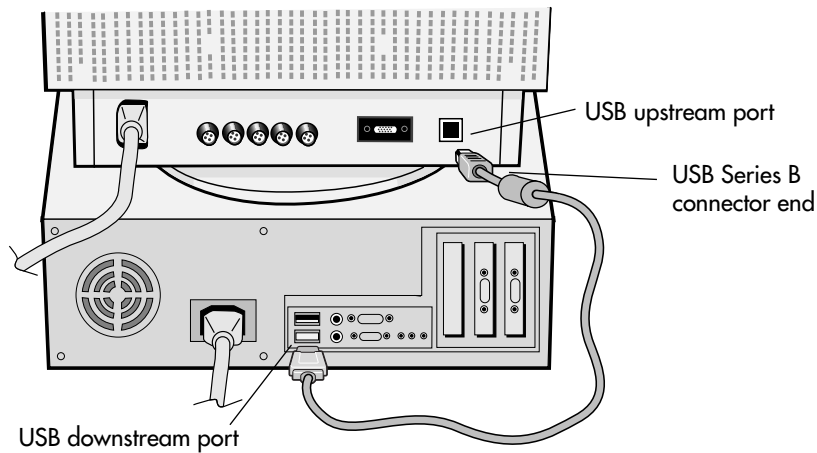

Figure 1
1. Using the supplied USB cable, connect the USB Series B connector end to the USB upstream port on the monitor (**Figure 1**).
2. Connect the other end of the supplied cable to the USB downstream port on the computer (or to a USB Hub attached to the computer) (**Figure 1**).